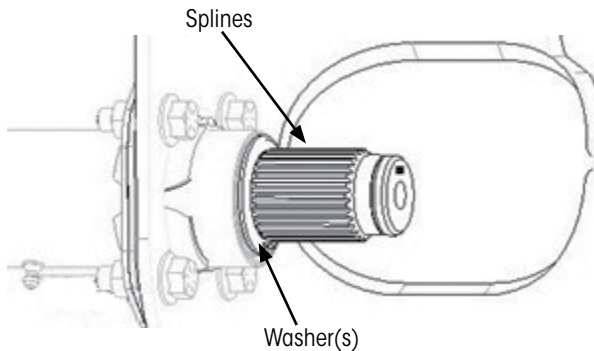

Figure 1: Camshaft splines
2. Ensure that the camshaft splines (Figure 1) are clean.
3. **Inspect** the washer(s) (Figure 1) on the S-cam shaft, replace if necessary.